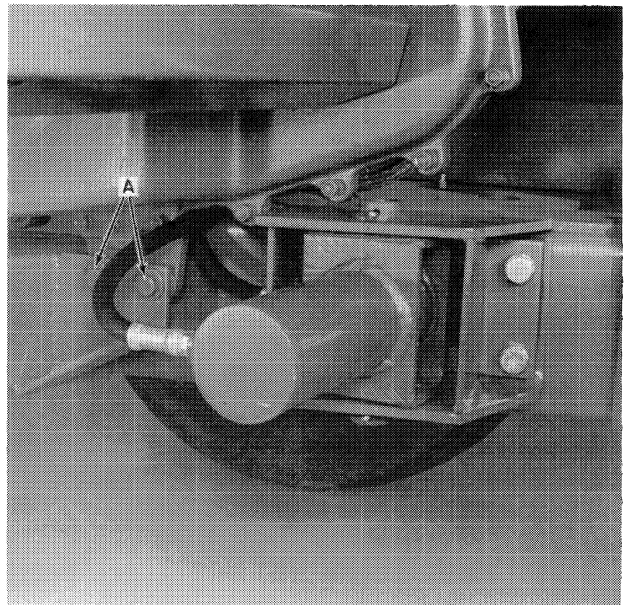

FIGURE 1-8
13. Support the gearboxes with a hoist and remove the two reversing gearbox mounting bolts, A, Figure 1-8. Note the position and number of shims and washers between the gearbox and mounting bracket.